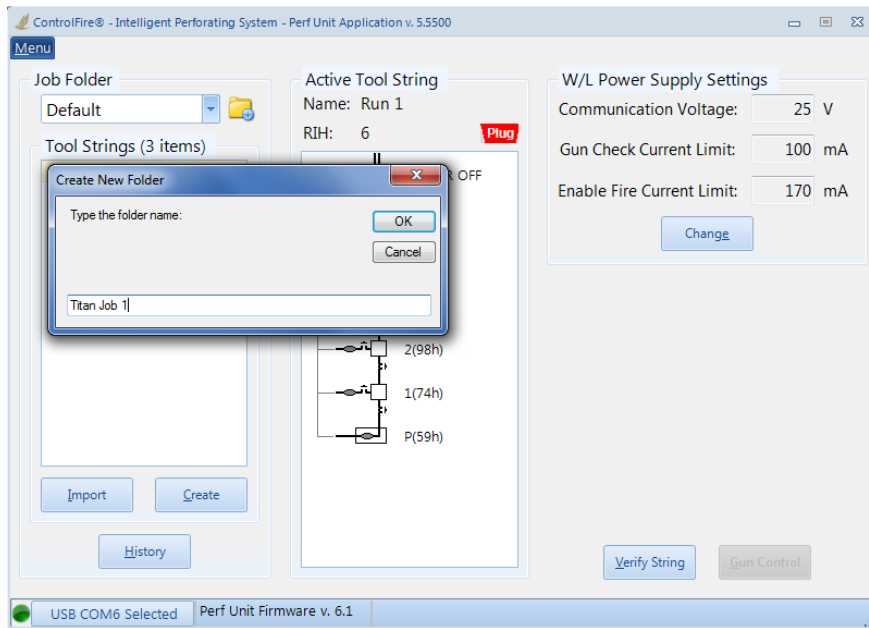
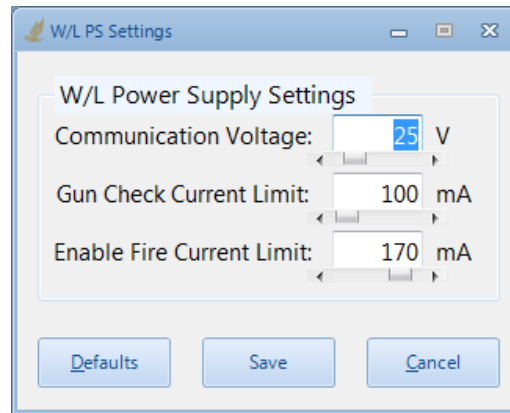

Figure 17
Figure 18
A new Job Folder is normally created for a client on every new job or well. Refer to Figure 17 for the next steps:
From the setup screen in Figure 17, select the **Change** button in the **W/L Power Supply Settings** group box. This brings up the W/L Information screen shown in Figure 18.
1. Select Titan Job 1 folder (Refer to Figure 17)